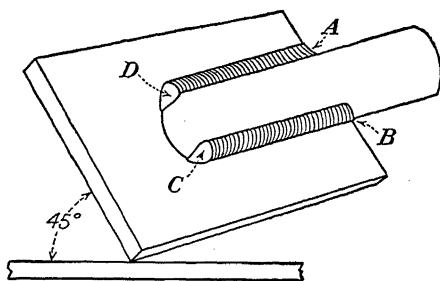
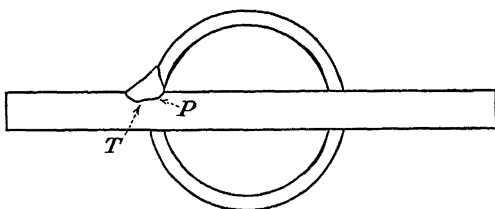

FIG. 65.—Tube and plate weld.
FIG. 66.—End view of tube and plate weld.
0.065 in. tubing, about 1 in. in diameter and 5 in. in length. Saw a slot in the tube 3 in. long and  $\frac{3}{8}$  in. wide. Slip the tube over the  $\frac{1}{4}$  in. plate (Fig. 65). Slip a  $\frac{1}{16}$  in. welding rod under the tube to space it from the plate and to facilitate welding.
Using a No. 3 welding tip and a  $\frac{3}{32}$ -in. copper-coated mild-steel rod, preheat the entire plate to a bright red before beginning to weld. Keep the tube as cool as possible. Tack the weld at points A, B, C, D (Fig. 65). Use small tacks.
To aid in controlling the weld puddle and in securing full penetration, turn the tube and plate up on the side, with the plate at a 45-deg. angle from the bench (Fig. 65). The weld must be fused into the plate and tube without leaving an undercut or rolled edge. The penetration must be between 25 and 40 per cent at point T (Fig. 66)
Make the first weld from *A* to *D* (Fig. 65) with the plate tipped. The junction between the tube and plate is plainly visible. Hold the torch so that the welding tip is straight with the line of travel and pointing into the joint at a 30-deg. angle in order that the weld may be driven under the tube. Hold the welding rod against the edge of the tube, feeding it into the puddle from the tube side. The welding rod protects the tube from melting too rapidly.
Preheat the plate after tack welding. If possible, use another torch to keep the plate hot during welding. Make the weld from *A* to *D* (Fig. 65). Build up a small puddle at point *A*. Move the torch forward for  $\frac{1}{2}$  in., melting deeply into the plate just under the tube. As the torch moves forward, the outside edge of the tube melts back until the inside edge is exposed. Do not break through the tube, but move back to the beginning and, dropping the rod into the puddle, advance along the line of travel, using the crisscross stroke. The side motion of the welding rod keeps the deposit full along the top edge of the weld on the tube side, preventing undercuts. The rod aids in feathering the weld into the plate, thus preventing undercuts or overlap. Keep the plate preheated at all times. Keep the tube melting back and the plate melting and flowing ahead of the advancing weld to ensure perfect fusion and penetration. It may be necessary at intervals to lift the rod from the puddle or hold it tightly against the tube, allowing the torch flame to play on the area ahead of the weld to bring it to the welding heat.
Carry the weld to point *D* (Fig. 65). Tilt the plates in the other direction and weld from *B* to *C*. The same welding technique is used on this side as from *A* to *D*. More care must be exercised on the side from *B* to *C* to prevent burning through the tube. Keeping the welding rod close to the tube and carrying the weld slightly ahead on the plate side will aid in equalizing the melting rate of the tube and the plate. When the weld is completed to point *C*, turn the plate over, remove the scale, and weld both sides of the tube to the plate. This side will require more welding heat, for the addition of weld metal has increased the size of the plate.
be certain that it is penetrating into the plate and tube to the correct distance (Fig. 66).